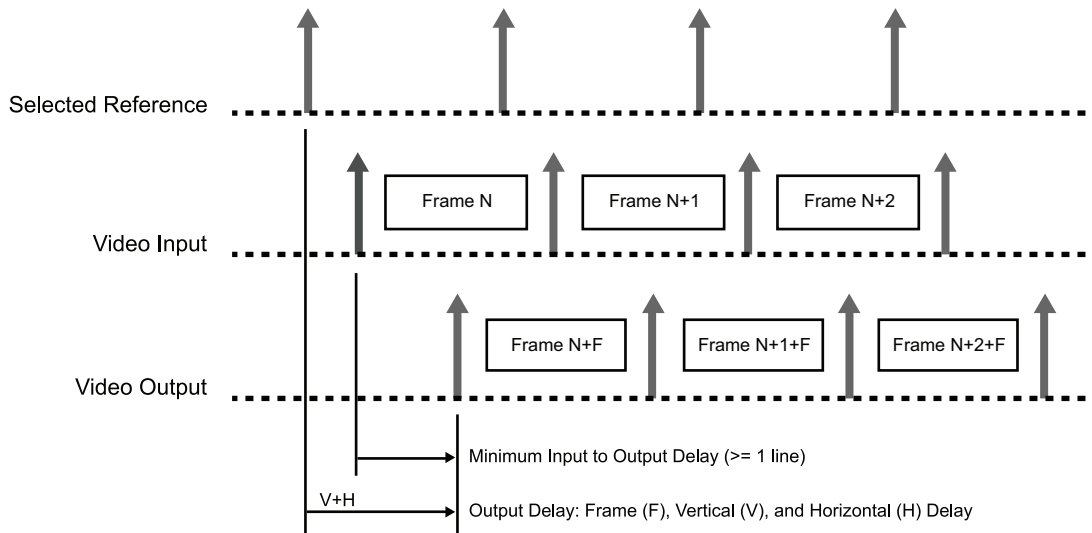

Figure 2.13 Functional Overview
Figure 2.13 illustrates the operation of your card.
The following elements are presented in Figure 2.13:
**Figure 2.13** should be re-drawn with the Up Arrows of the Selected Reference and Video Input aligned vertically.
The SDI video input is derived from the rear module. When the video input is not locked to the selected reference, the video input start of frame will drift compared to the reference. This can be visualized by sliding the Up Arrows of **Figure 2.13** to the left if the video input frame rate is slower than the reference, or to the right if it is higher.